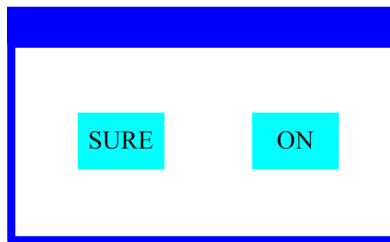

Figure 5 Dialog of confirm
- I When the parameter is a key item, Click corresponding item, a dialog shown in Figure 5 will be popup ask for the confirm. Click 'sure' to confirm.